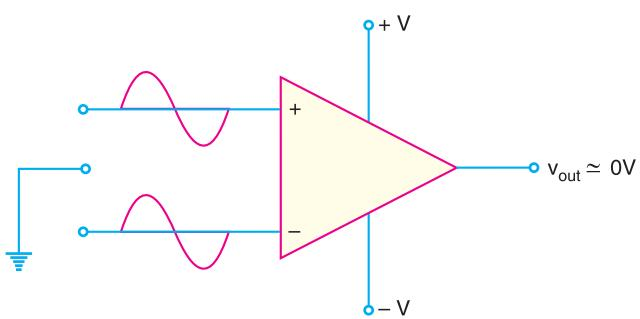

Fig. 25.12
**Importance of CMRR.** The *CMRR* is the ability of a *DA* to reject the common-mode signals. The larger the *CMRR*, the better the *DA* is at eliminating common-mode signals. Let us illustrate this point. Suppose the differential amplifier in Fig. 25.12 has a differential voltage gain of 1500 (i.e.,  $A_{DM} = 1500$ ) and a common-mode gain of 0.01 (i.e.,  $A_{CM} = 0.01$ ).